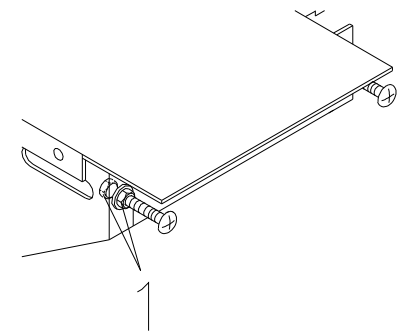

Fig. 9
Note: Loosen the 4 locknuts (fig. 9 pos 1) before adjusting the tension.
The tension can be adjusted by rotating the front or rear locknut (fig. 9 pos 1):